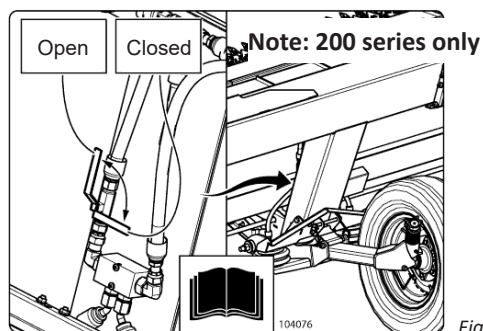

Fig. 10
3. Set header to RIGID mode. Raise header off the ground and pressurize to the correct psi for your header width as shown in the table in section 7.3, close the gauge wheel isolation valves (see Fig. 10) then proceed to section 8 on page 10.
3. Close both gauge wheel isolation valves (see Fig. 10.)
3. Open both gauge wheel isolation valves (see Fig. 10.)